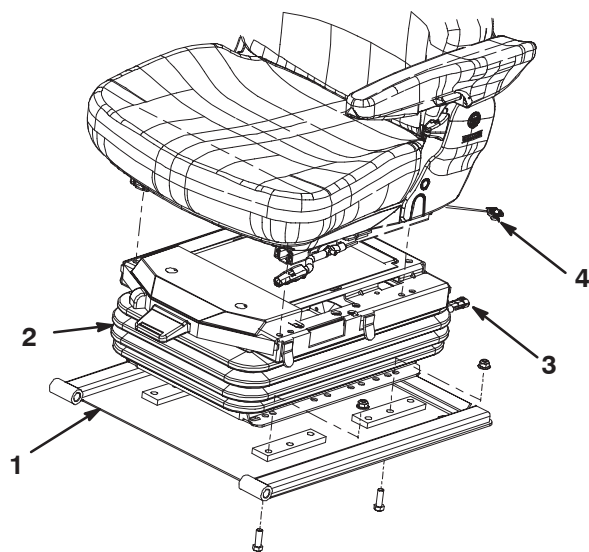

Figure 1
4. Remove the seat base from the machine (Fig. 1).
5. Mount the air ride seat suspension to the seat base with (4) 3/8 x 1-1/8 in. capscrews and flange nuts using the holes shown in figure 1
6. Re-install the seat base w/ seat suspension to the traction unit with the fasteners previously removed (Fig. 1).